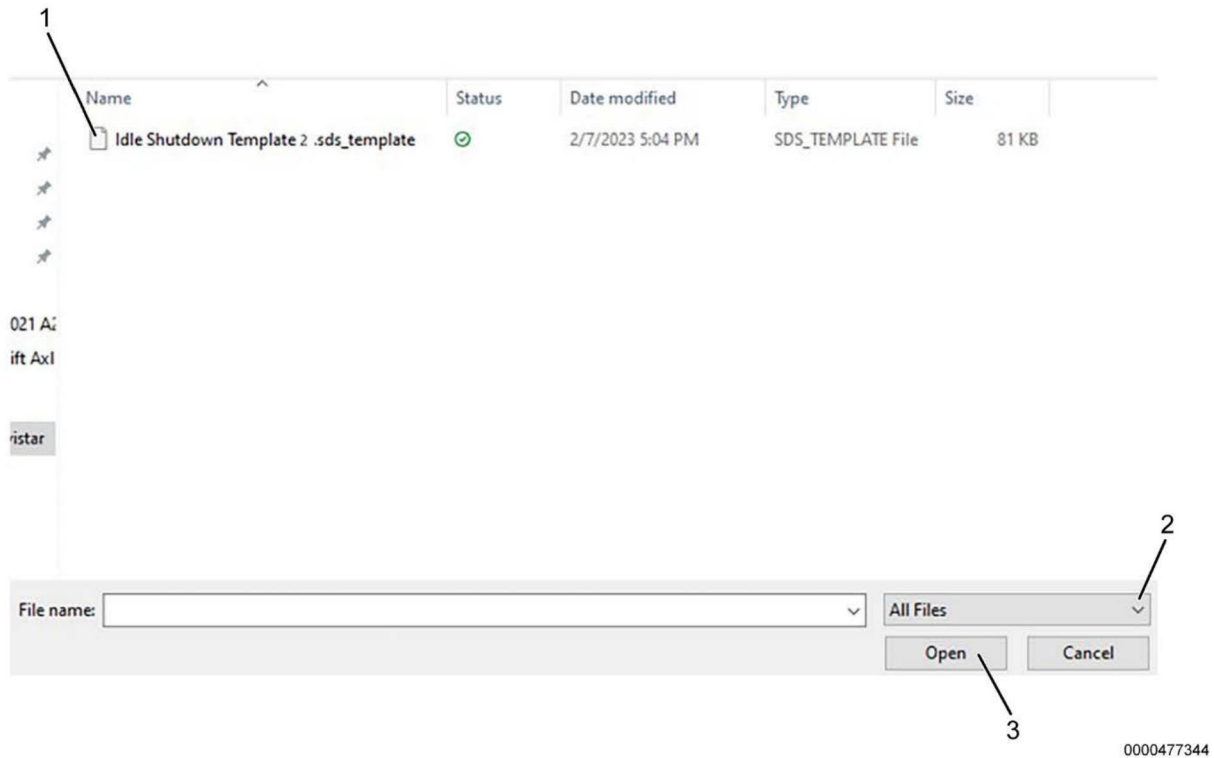

Figure 2. Load Template Screen
14. Ensure **ALL FILES** (Figure 2, Item 2) is selected in dropdown.
15. Select **Idle Shutdown Template 2** (Figure 2, Item 1).
16. Select **OPEN** button (Figure 2, Item 3).